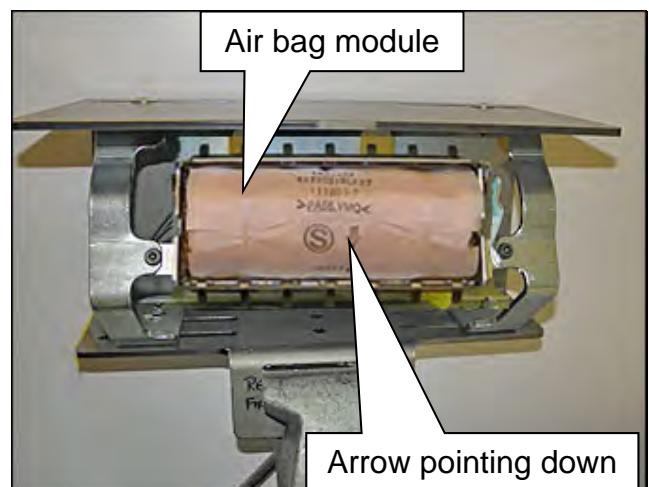

Figure 18
18. Attach the air bag module to the FX brackets in the support, as shown in Figure 18.